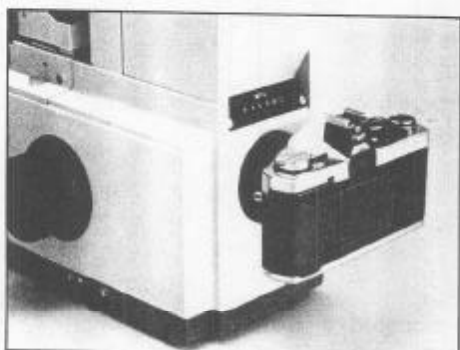

Fig. 38
1) A 35mm camera back can be mounted in the same way a camera lens is bayonet-mounted on a camera. (Fig. 38)